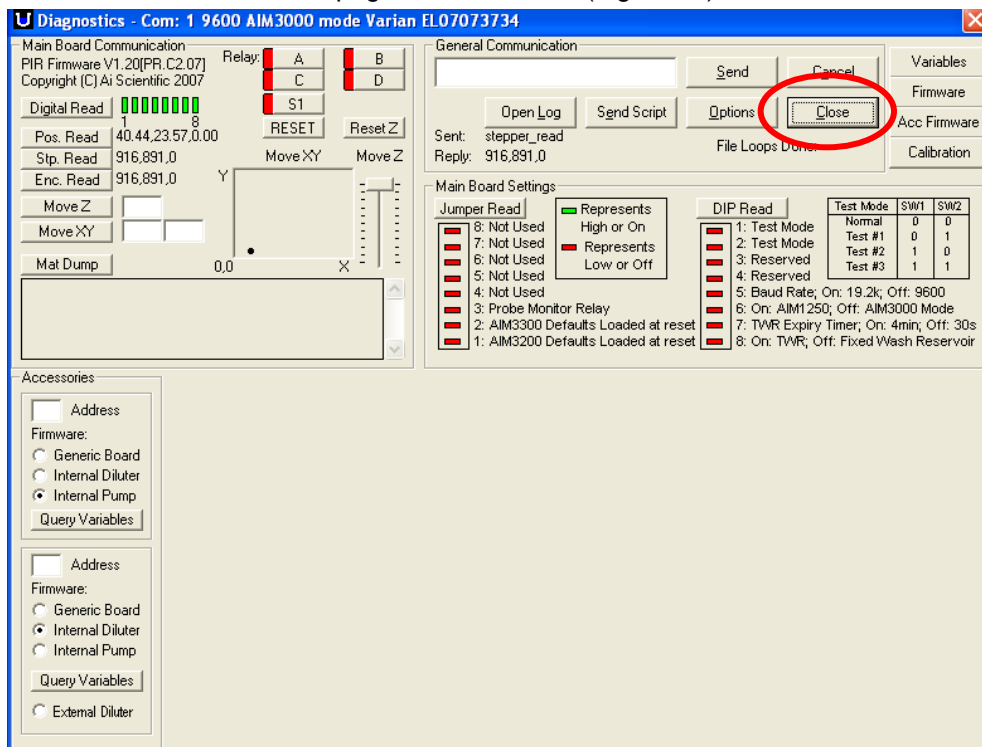
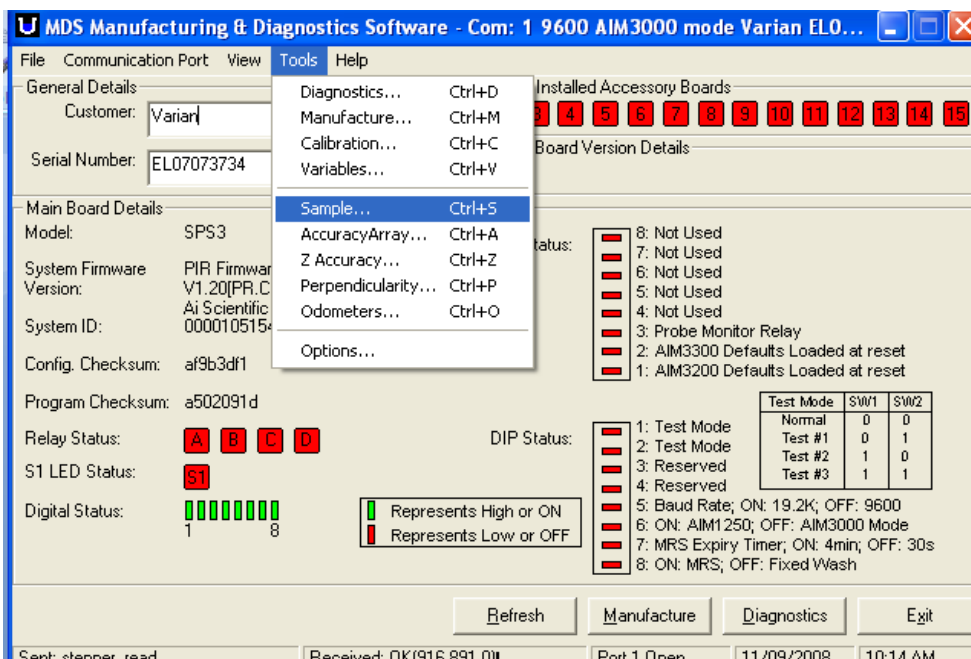
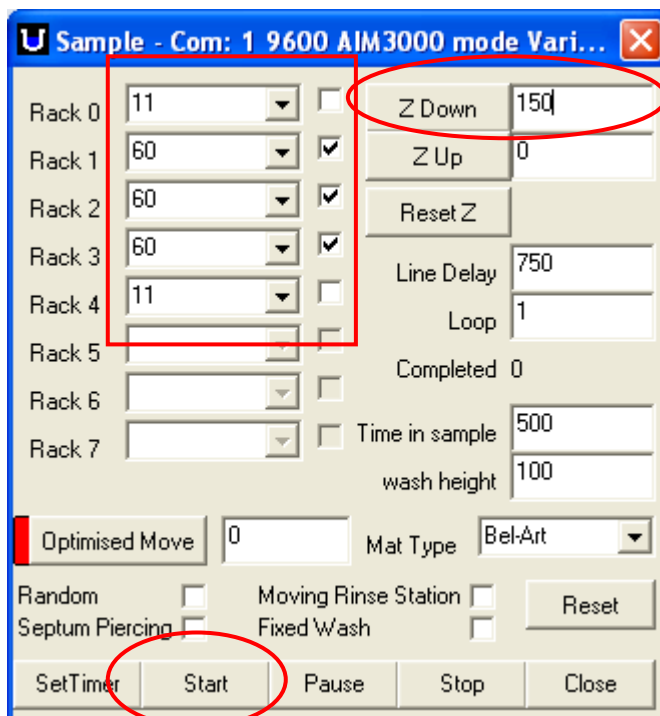

Figure 36. Closing the Diagnostics Page
Figure 37. Main Page of the software
Figure 38. Fraction Collector Rack Configuration
- Press the Close button again (Figure 36) and you will be back to the main page of the software (Figure 37).
13. Select the Tools option from the pull down menu and click on Sample (Figure 37). This will open the window in Figure 38 where you can choose which racks the Fraction Collector has and the rack size.
15. Select a Z down (Figure 38) value so that you can easily see if the probe is going into the sample collection tube properly. A value of about 150 is a good value to use. Once you are happy with the setup, click on the Start button and the probe will move through all the positions for the number of racks you have selected.